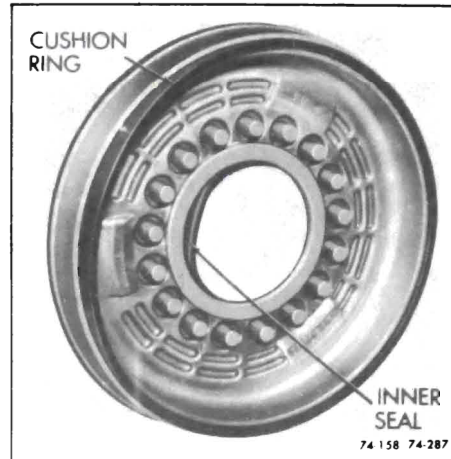

Figure 74-287
2. Lubricate with transmission fluid and install reverse clutch piston inner seal. See Figure 74-287. Install cushion ring if it was removed.